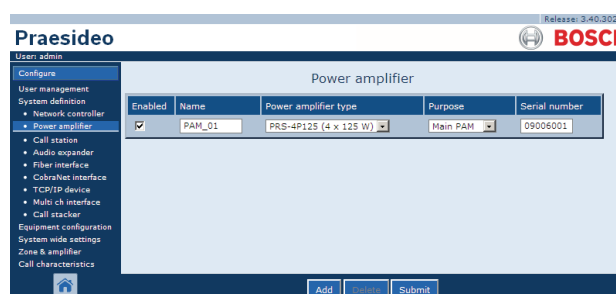

figure 43.11: Delete power amplifier, step 5
- Click the **OK** button to confirm the pop-up message. A screen similar to the one in figure 43.11 appears in the main frame of the web interface. The deleted power amplifier is no longer listed in the table.